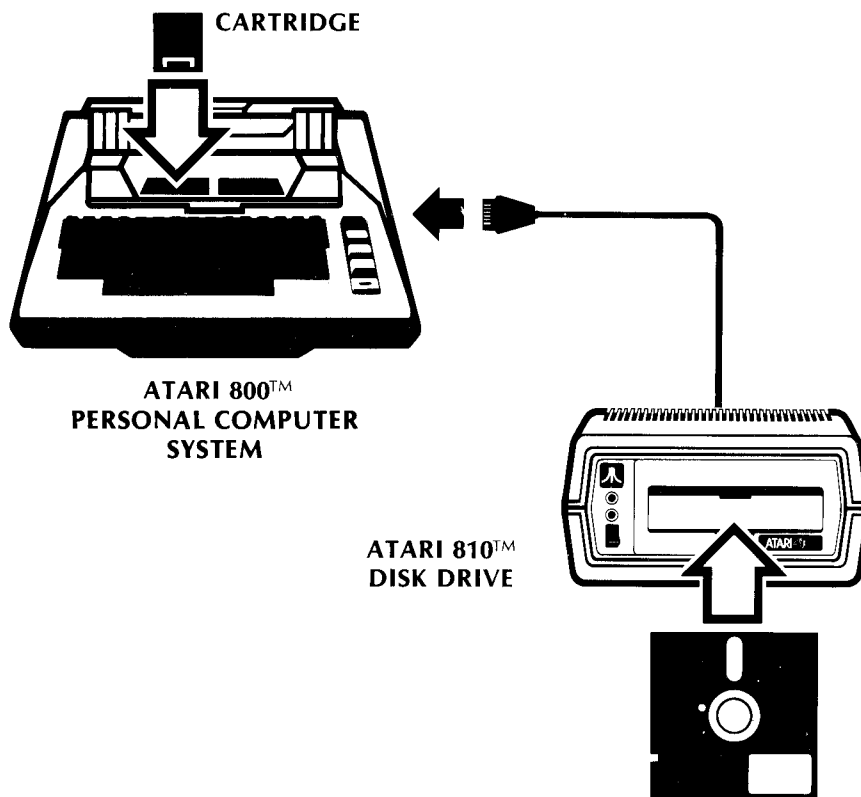

Figure 1 Diskette Insertion
5. Hold diskette with label in the lower right corner and the arrow pointing toward the disk drive (see Figure 1).